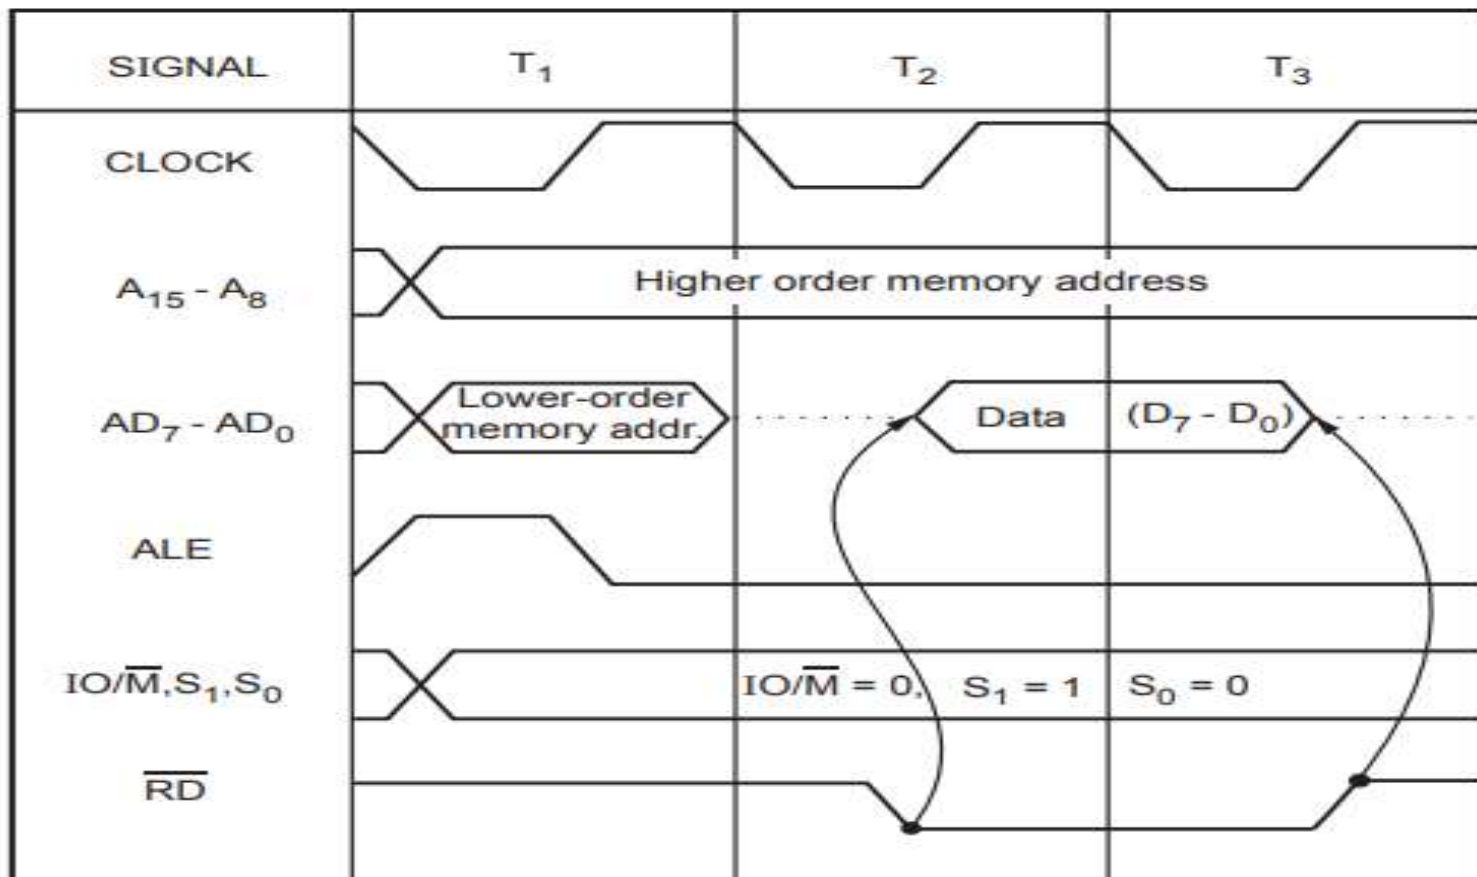

Fig. 2.6.3 Memory Read Machine Cycle
- The instructions which have more than one byte word size will use the machine cycle after the opcode fetch machine cycle. (See Fig. 2.6.3 on next page.)